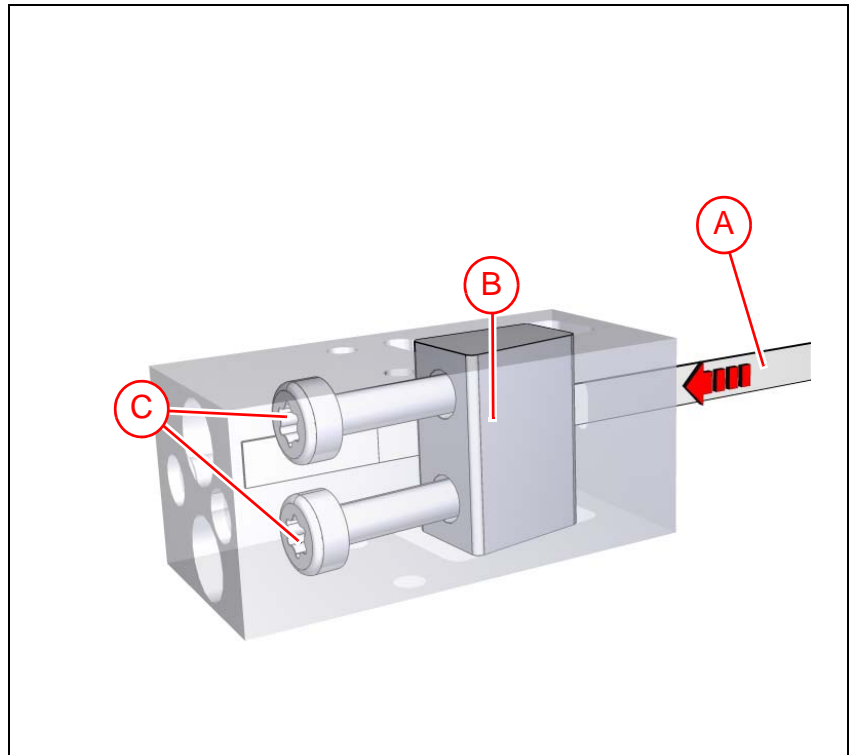

Figure 5-26. Mounting the steel strip.
1. Place the steel strip ('A' in Figure 5-26) and the wedge ('B') in the first bracket. Make sure that the steel strip is fully engaged and reaches the wall in the end bracket.